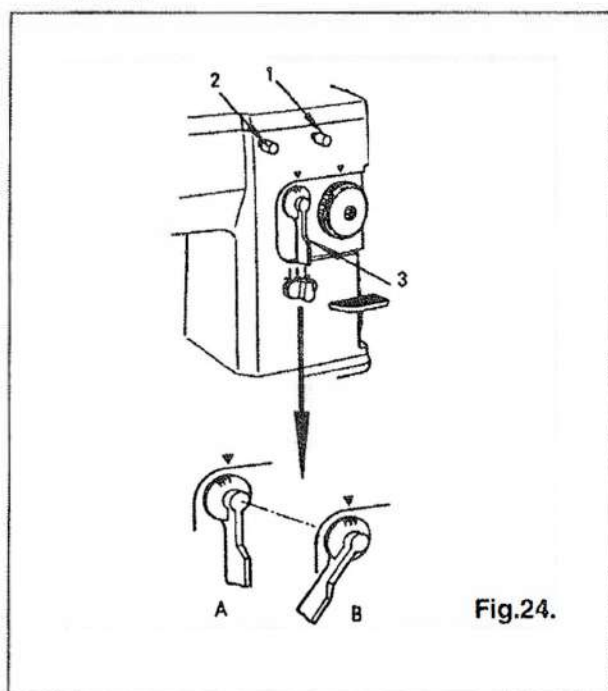

Fig.24.
To obtain minimum to maximum width (20U73/73B:9mm. 20U83/83B:12mm) zigzag stitches, first loosen thumb screw (2), Fig.24. to permit the stitch width regulator (3), Fig.24 to return to its zero position (see A, Fig.24) and retighten thumb screw (2).
Then loosen thumb screw (1), Fig.24. turn stitch width regulator (3) clockwise as far as it will go and while holding the regulator (3) in this position (see B, Fig.24), retighten thumb screw (1).